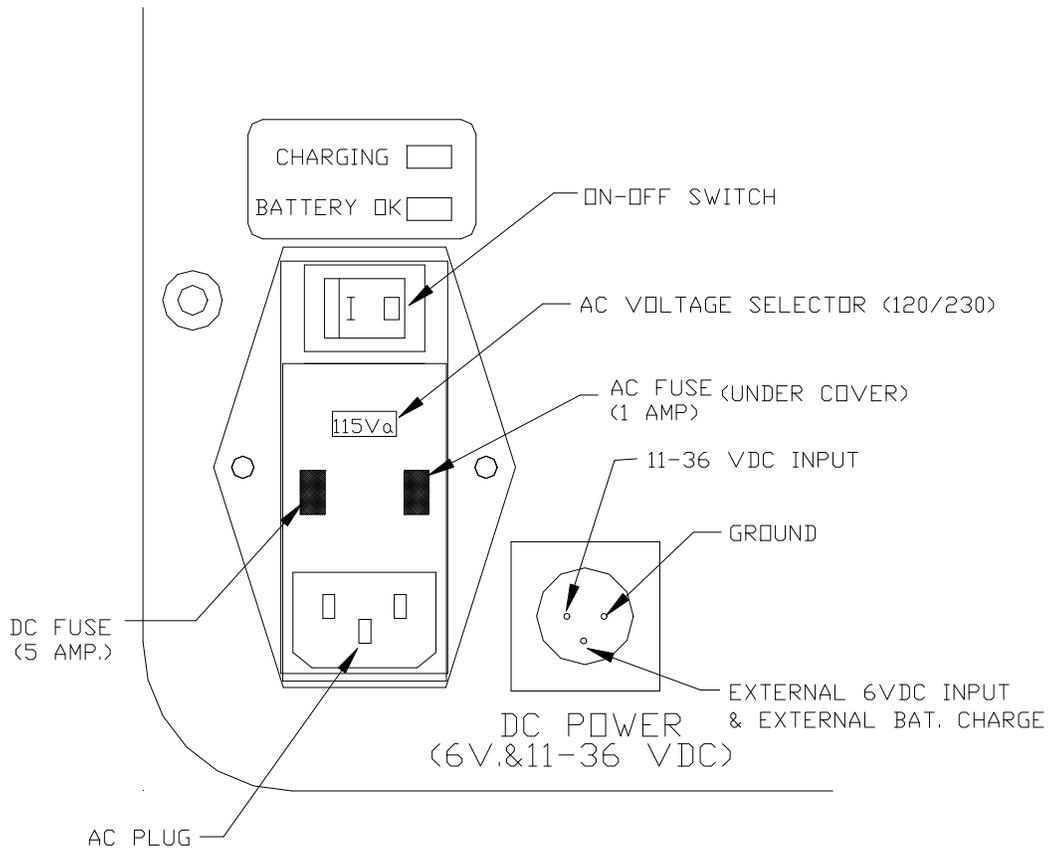

FIGURE 4
6. The ON/OFF switch module can be set for either 120 VAC or 230 VAC. The current setting is shown on the face of the module. If you wish to change the setting, lift the tab that covers the module, pull out the plastic insert that indicates the voltage setting and insert it so that the correct voltage setting is shown on top. See figure 4.